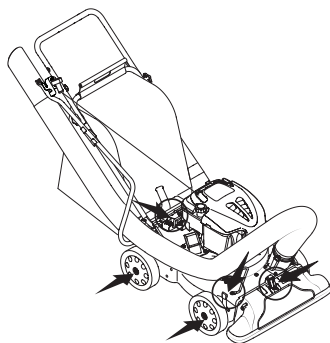

Figure 15
4. Lubricate the nozzle/hose vac lever on top of the nozzle once a season with light oil. See Figure 15.